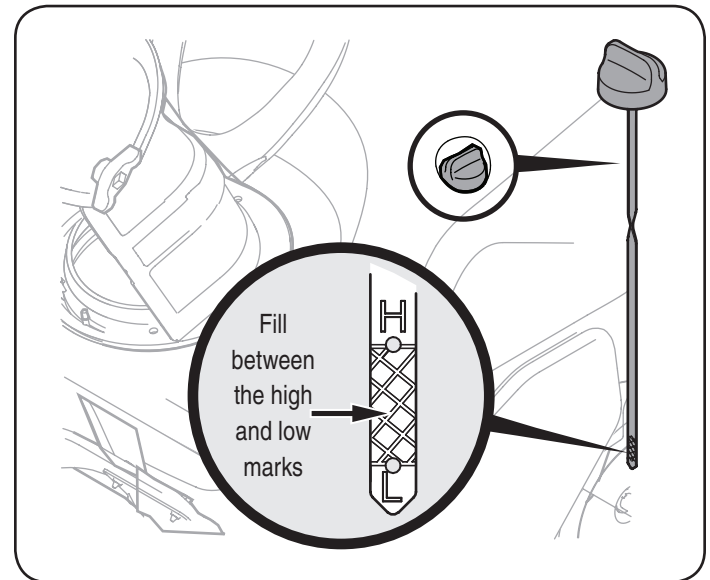

Figure 8
4. Slowly add oil until the oil level registers between high (H) and low (L) on the dipstick, Figure 8. Refer to the Service and Maintenance section for the correct oil viscosity and engine oil capacity.